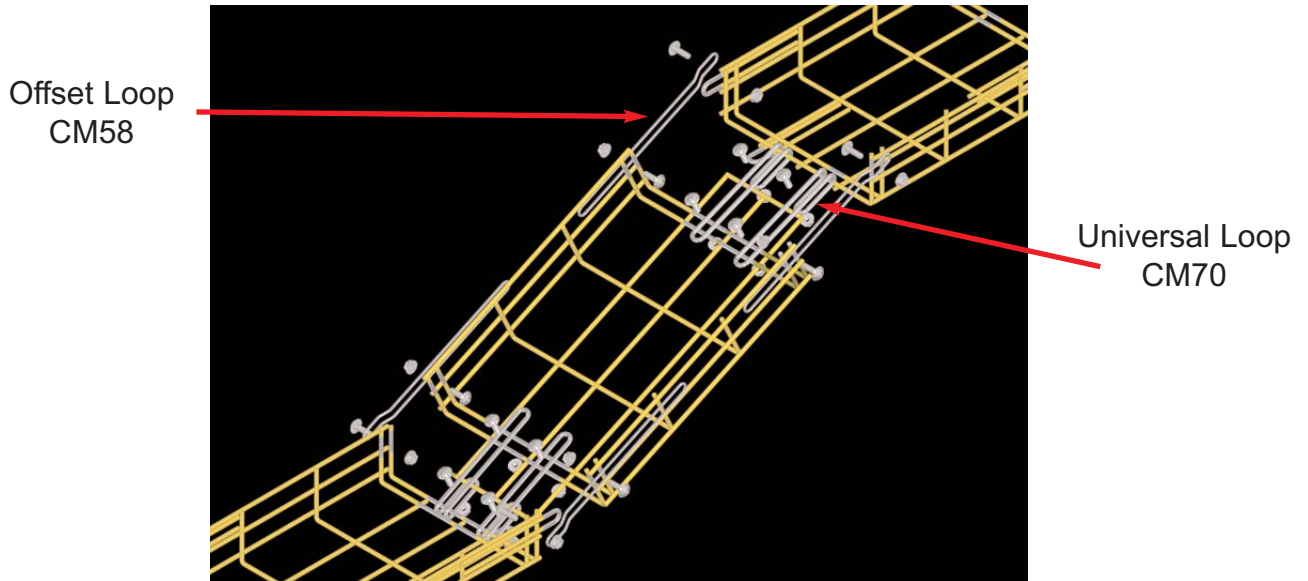

FIG. 3
2. Use a 'Drop' tray section for applications where there is an elevation change in the cable tray layout. Drop tray sections are to be connected to adjacent tray sections using two CM70 loops to connect the bottom of each adjacent tray section, and two CM58 loops to connect the side of each section together. If the tray is 12" wide or greater, use three CM70 loops. Insure the loops are attached at the unpainted contact points on each tray section. Secure each loop to the tray section with a carriage bolt and nut (**See fig. 3**).